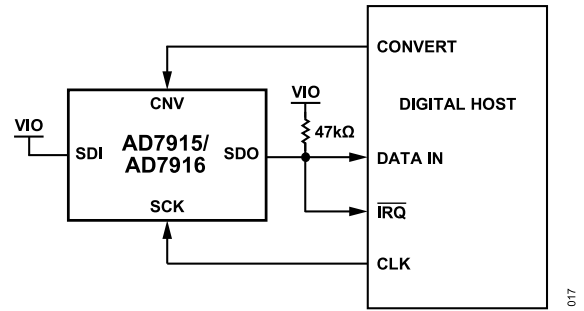
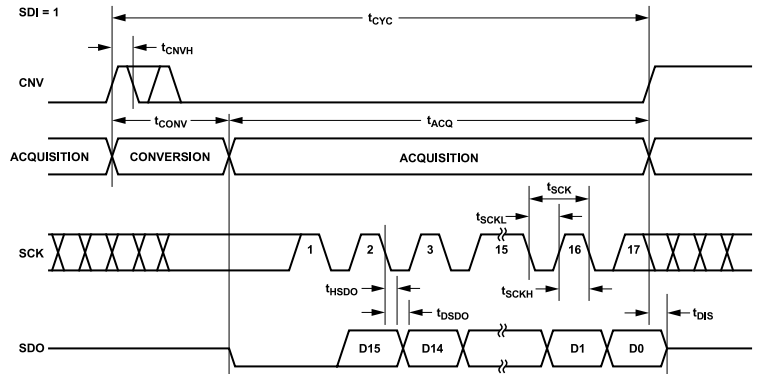
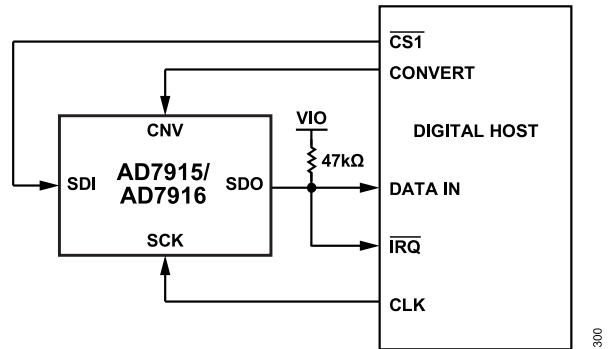
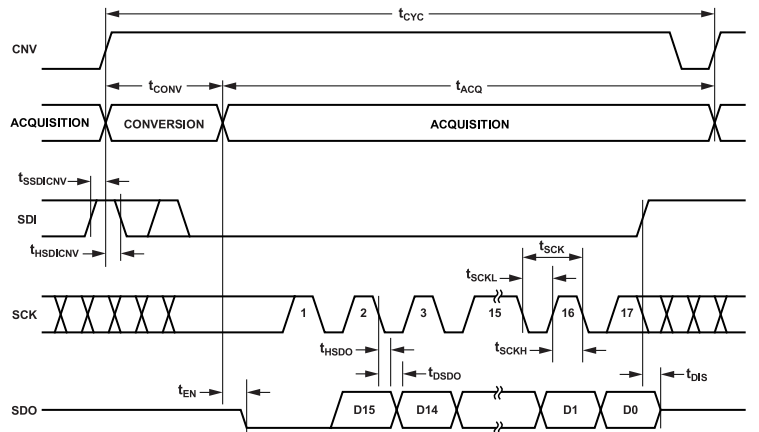

Figure 36. 3-Wire,  $\overline{CS}$  Mode with Busy Indicator Connection Diagram (SDI High)
Figure 37. 3-Wire,  $\overline{CS}$  Mode with Busy Indicator Serial Interface Timing (SDI High)
Figure 40. 4-Wire,  $\overline{\text{CS}}$  Mode with Busy Indicator Connection Diagram
Figure 41. 4-Wire,  $\overline{\text{CS}}$  Mode with Busy Indicator Serial Interface Timing
- ▶ in  $\overline{\text{CS}}$  mode if CNV or SDI is low when the ADC conversion ends (see Figure 37 and Figure 41).
The connection diagram is shown in Figure 36, and the corresponding timing is given in Figure 37.
The connection diagram is shown in Figure 40, and the corresponding timing is given in Figure 41.